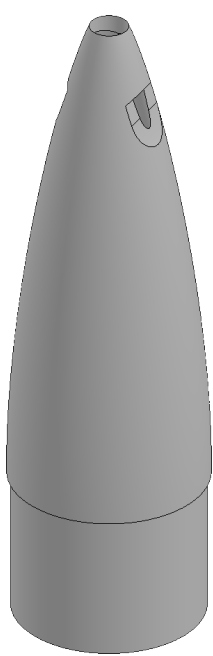

Fig. 67
Step 4. Rotate view and repeat Delete Face for Mirrored Sweep, **Fig. 67**.